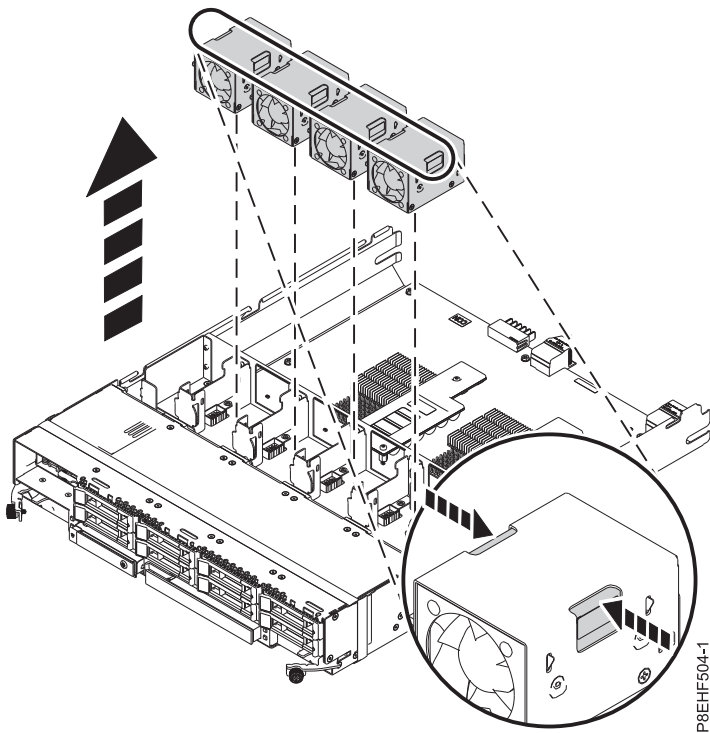

Figure 8. Removing the fans from the RAID assembly
8. Label and remove all of the fans from the RAID assembly by pressing the tabs of each fan and lifting them up. Place the fans on the ESD mat. See Figure 8.